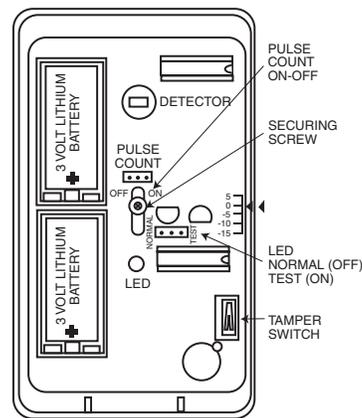

Figure 5. PC Board
2. **Observing correct polarity**, install the two Lithium batteries (supplied) into the battery holders, as shown in Figure. 5. Make sure the batteries are firmly seated.
To program the detector, place the LED jumper in the TEST position (see Figure 5), the Pulse Count jumper in the OFF position, batteries installed, and cover on. Temporarily cover the lens (a cloth will do) to prevent any activation by the detector.
2. Temporarily loosen (do not remove) the screw holding the PC board in the detector base (see Figure 5 for location of this screw).
5. Before fully tightening the PC board-holding screw, make sure the board is positioned so that the arrow is in line with the appropriate setting on the graduated scale on the right-hand side of the PC board (see Table 1 and Figure 5).
The protection pattern provided by the lens in use can be raised or lowered by re-positioning the PC board in the detector. A graduated scale to the right of the board (see Figure 5) indicates the approximate number of degrees by which the pattern can be raised (max. +5°) or lowered (max. -15°). The detector is normally shipped with the board set to the 0° position. To make this adjustment, remove the cover on the detector and loosen the screw holding the PC board (the screw is located at the approximate center of the board). Slide the board upward or downward by the number of degrees required, then tighten the holding screw again. After any adjustment, you must conduct a Walk Test to ensure proper coverage of the area to be protected, as indicated under *TEST PROCEDURES*.
Each detector includes pulse count circuitry that is designed to provide stability in adverse environments to minimize false alarms. Pulse count is selected by positioning a jumper across the ON pulse count terminals (shown in Figure 5). When set for pulse count, the detector will signal an alarm within 2 or 3 steps, since the processing logic requires more complex motion than just a momentary event. When the detector verifies an intrusion, the built-in transmitter sends an alarm message to the control/receiver.
The detector is shipped with the LED disabled (LED jumper in the "NORMAL" position). The LED may be enabled (for the Walk-Test) by positioning the LED jumper in the "TEST" position (see Figure 5).
† See Figure 5 for location of adjustment scale on PC board (refer also to VERTICAL PATTERN ADJUSTMENT).